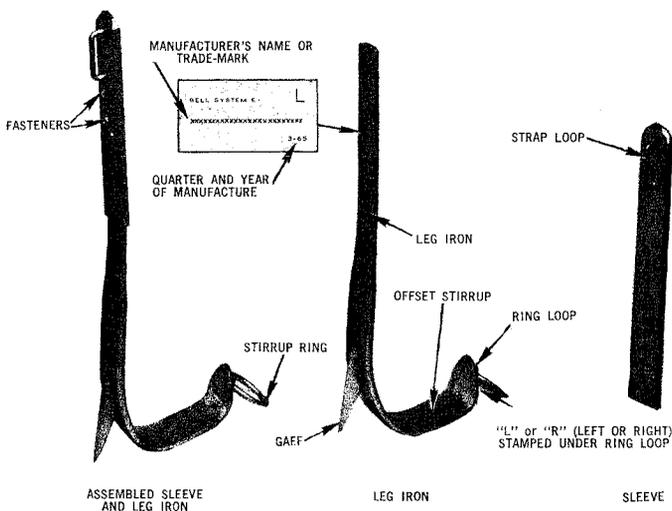
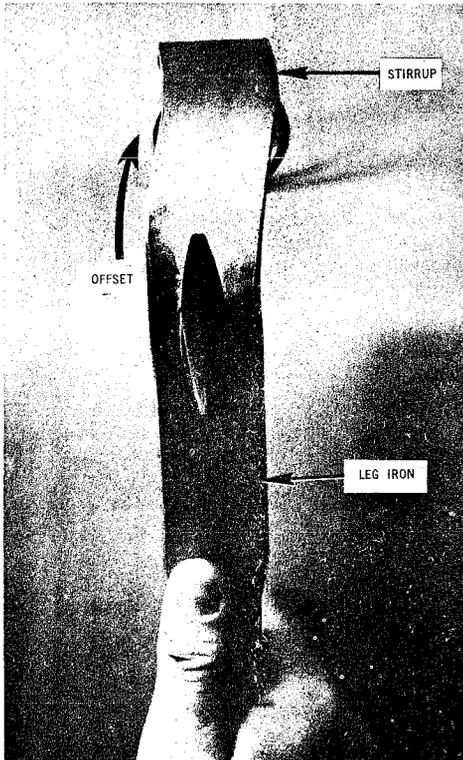

Fig. 1 - E Climber
Fig. 2 — Stirrup Offset "Right"
- 2.01 Adjustable climbers have replaced fixed length climbers. The E Climber, Fig. 1, which supersedes the D climber is changed to use two set screws instead of one set screw and a rivet for attaching the sleeve to the leg iron.
2.02 Adjustable climbers have offset stirrups, therefore, they are made for the right and left foot and are marked "R" or "L" on the appropriate climber as indicated in Fig. 1. These climbers can be identified as right or left by remembering that the offset of the stirrup is toward the front of foot. Another method is to hold the climber with gaff toward you and pointing up, then noting which direction the stirrup is offset. If the offset is to right, it is a right climber as in Fig. 2; if the offset is to left, it is a left climber.